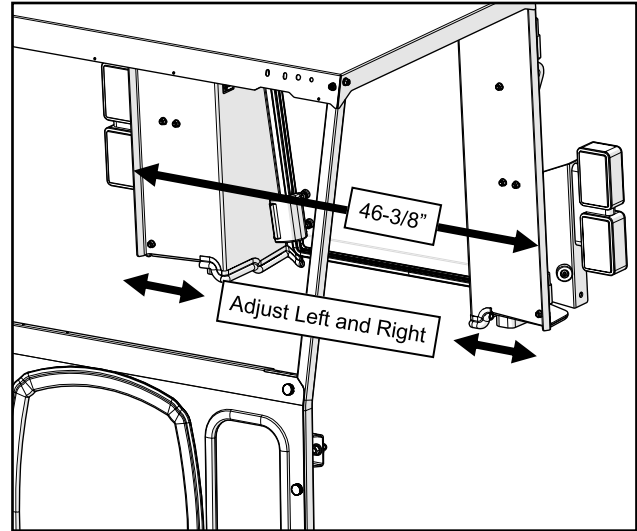

Fig. 12.1 (Align Legs Left and Right)
- 12.1** Adjust the bottom of the rear legs side to side to get the outer surfaces matched up with the sides of the rear fender. See figure 12.1. The outer flanges of the legs should be about 46-3/8" apart, outside to outside.